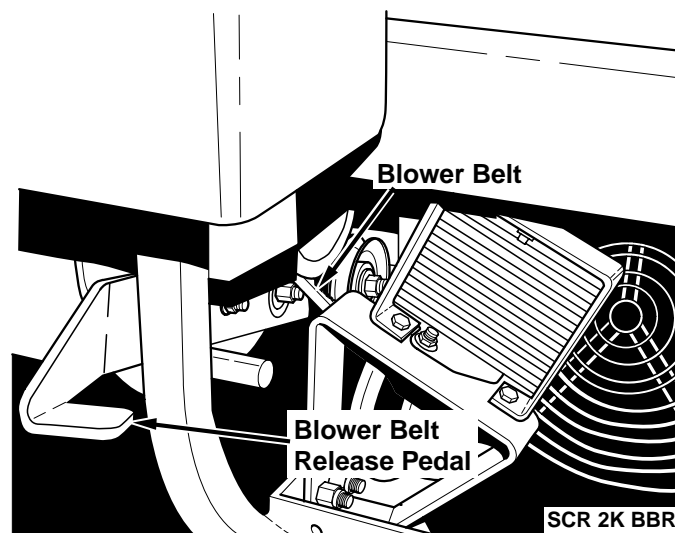

Figure 4-3 Blower Belt Release
14. **Blower Belt Release (Figure 4-3).** This lever is used to release the belt tension and allow the blower belt to be removed when the cutter deck is setup as either a mulching or a side discharge deck.